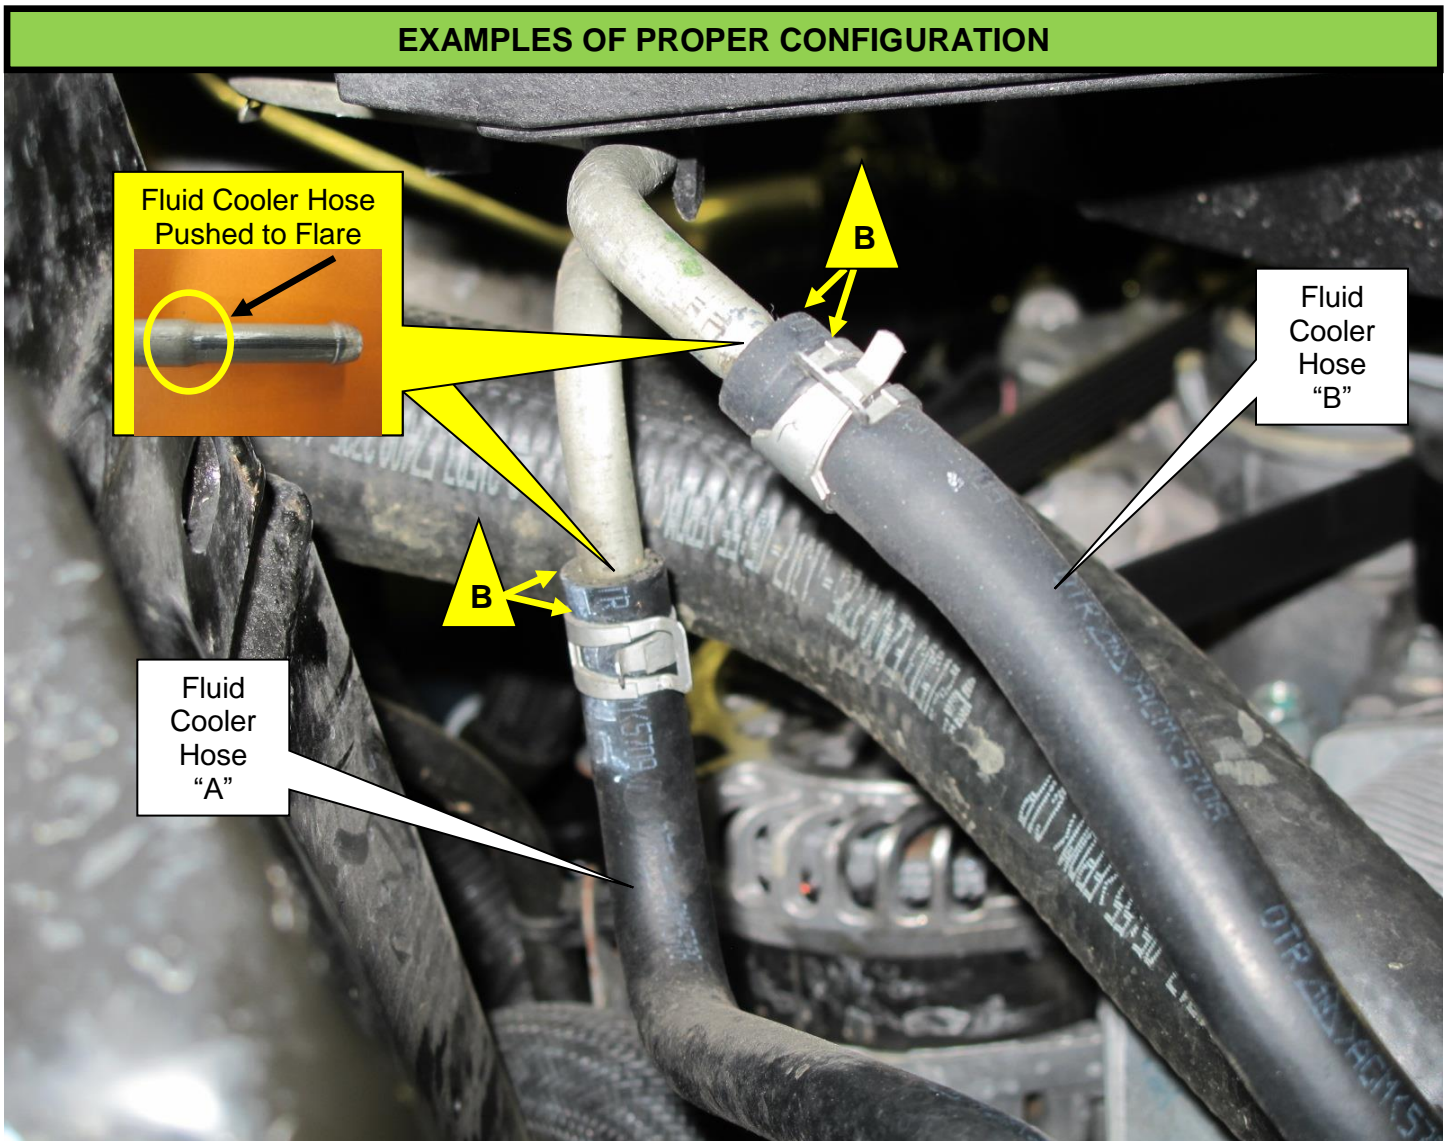

Figure 6
6. Inspect A/T Fluid Cooler Hose "A" and "B" connections for proper configuration (Figure 6).
8. CORRECT ANY HOSES NOT PROPERLY INSTALLED, REFERENCE STEP 6 (FIGURE 6).